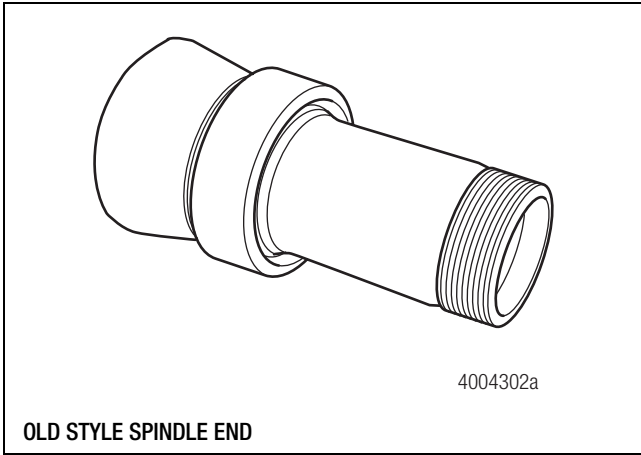

Figure 4.2
- The axle spindles are straight and shorter than conventional spindles. Figure 4.2, Figure 4.3 and Figure 4.4.